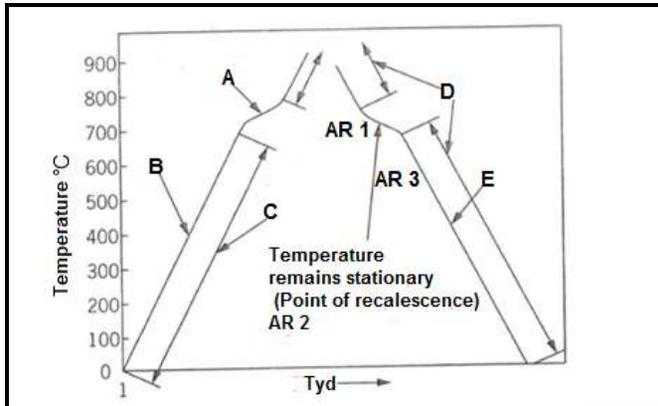

FIGURE 6.1
6.1 FIGURE 6.1 Below shows the heating and cooling curve for steel. Answer the questions that follow.